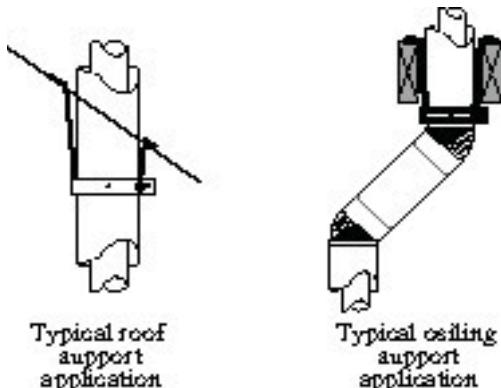
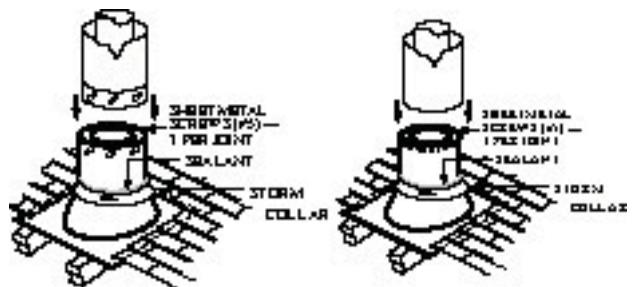

Fig. 36
Fig. 37
- Install roof support (Fig. 36) and roof flashing making sure upper flange of flashing is below the shingles. Fig. 37.
- Install appropriate pipe sections until the venting is above the flashing. (See Fig. 37).
The enlarged ends of the vent section always face downward, Fig. 37.